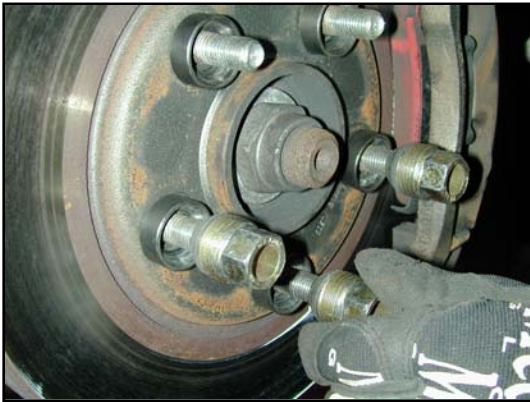

Fig.2
3. How do I check rotor run-out? (Fig.2 & 3)